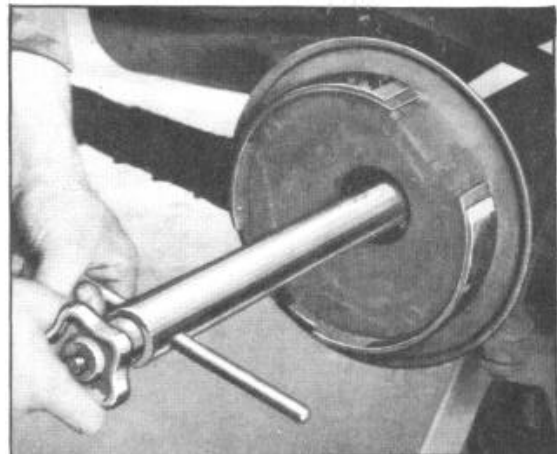

Figure 6--Removing Broken Axle Shaft
14. If axle shaft is broken off in the housing it can be removed by using broken axle shaft remover tool HM 540, as shown in Figure 6.